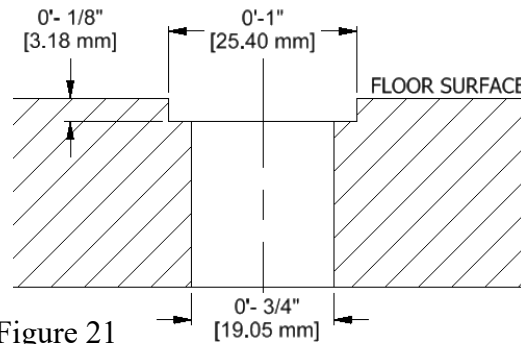

Figure 21
14. Refer the installation instructions for the rear Floor Anchor found in the package of the Floor Anchor (item 19) and install the insert into the floor. This insert is to be installed at the rear anchor location marked on the floor in step 11.
15. Using a 1" Forster or spade bit, drill a 1/8" deep counter-bore at the (2) Locator Pin locations marked on the floor in step 10. Using a 3/4" Forster or spade bit, drill through the rest of the floor (minimum of 1" deep) at the center of each of the counter-bores. See section view of finished hole in figure 21.